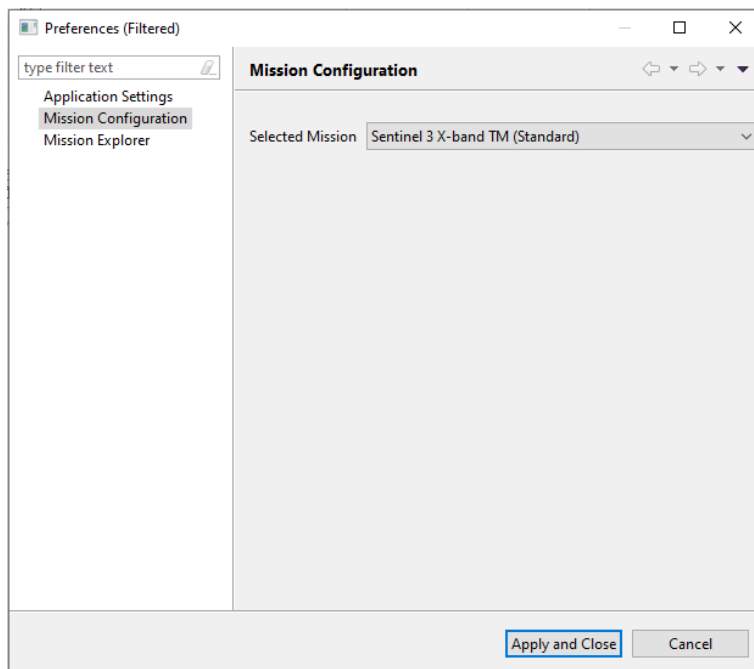

Figure 26: Active Mission Configuration
3. Select the new active mission using the combo box “Selected Mission” shown in Figure 26.